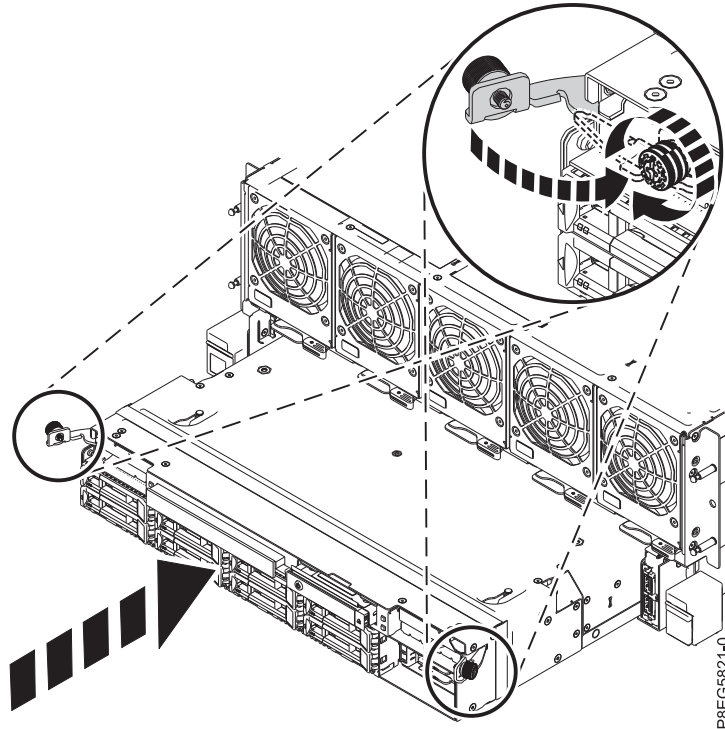

Figure 13. Replacing the disk drive backplane at the front of the system chassis
3. Push the latches in and tighten the thumbscrews, as shown in Figure 13 on page 13.